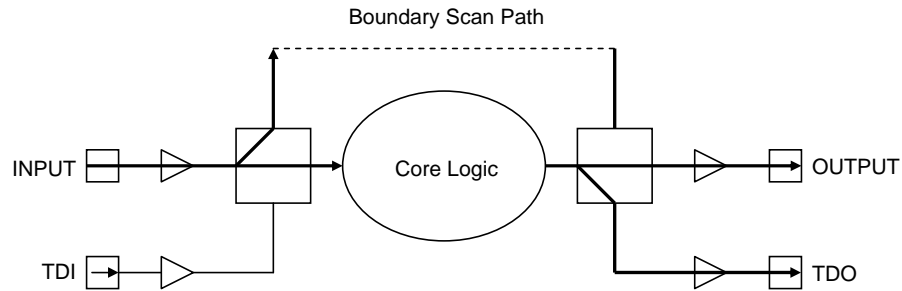

Figure 21.9 Test Data Flow While SAMPLE is Selected
- SAMPLE allows the input and output pads of an IC to be monitored. While it does so, it does not disconnect the system logic from the IC pins. The SAMPLE function occurs in the Capture-DR controller state. An example application of SAMPLE is to take a snapshot of the activity of the IC's I/O pins so as to verify the interaction between ICs during normal functional operation. The flow of data for the SAMPLE phase of the SAMPLE/PRELOAD instruction is shown in Figure 21.9.